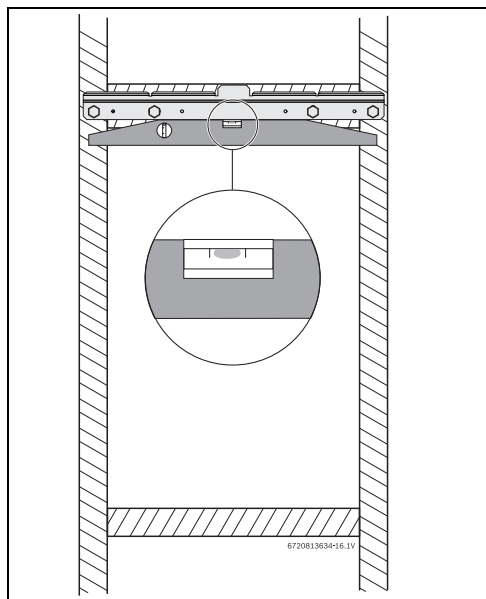

Fig. 8 Leveling wall mounting bracket
- ▶ Secure the wall mounting bracket provided with the heater to a wall surface. The heater must be kept level on the wall surface, see fig. 8, page 18.